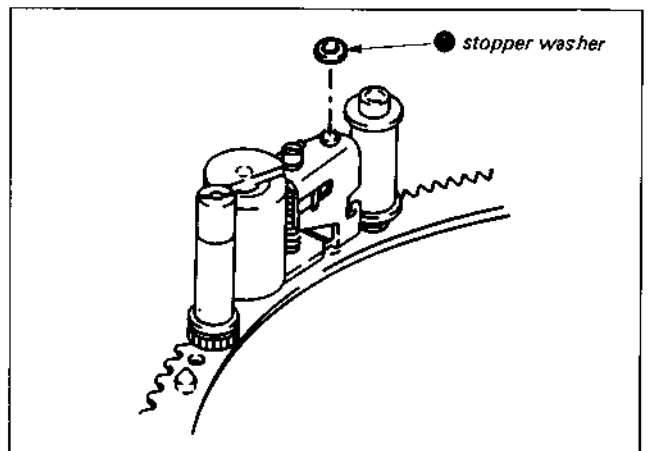

Fig. 7-25.
- 5) Mount the stopper washer ⑥. (See Fig. 7-25.)